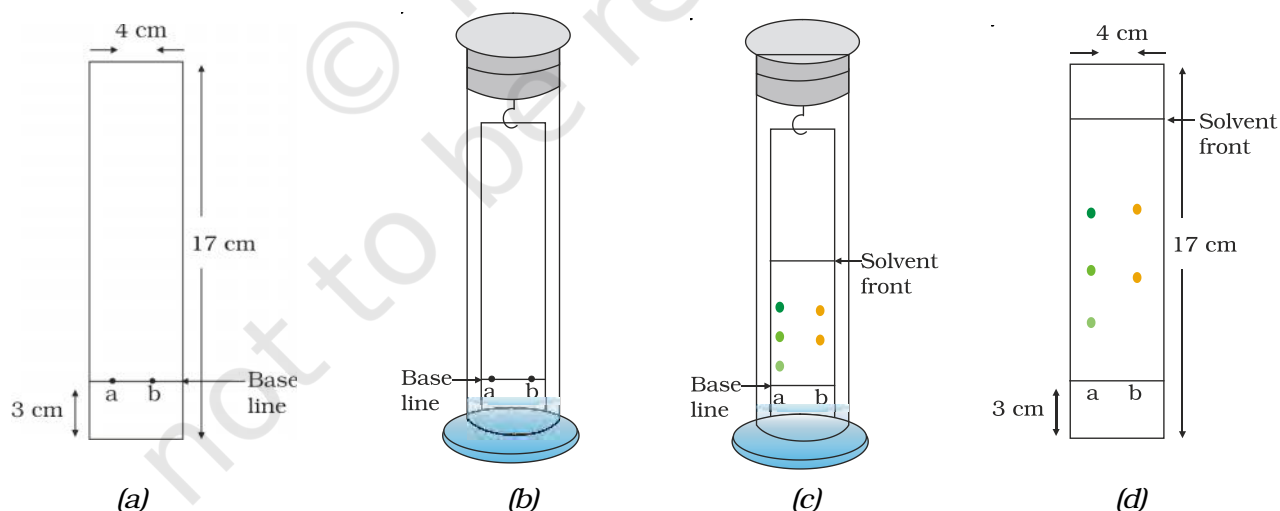

Fig. 5.1 : (a) Marked paper; (b) Dipping the filter paper in the solvent; (c) Developing chromatogram; and (d) Developed chromatogram
- (iii) Procure a Whatman filter paper No.1 of size 4 cm × 17 cm and mark a line at a distance of 3 cm from one of the ends of the paper with the help of a pencil [Fig. 5.1(a)].
- (iv) Using a finely drawn capillary, put one spot 'a' for the extract of leaves and one spot 'b' for the extract of flowers. Allow these spots to dry as shown in Fig. 5.1 (a).
- (v) Hang the filter paper in a jar containing 20 mL mixture of petroleum ether (boiling range 60–80 °C) and chloroform containing 19 mL petroleum ether and 1 mL chloroform or a mixture of petroleum ether (boiling range 60–80 °C) and acetone in the ratio 9:1 (18 mL petroleum ether + 2 mL acetone) so that the solvent does not touch the reference line as given in Fig. 5.1 (b).
- (vi) Keep this jar as such till the mobile phase (solvent) rises up to 2/3 of the length of the paper [Fig. 5.1(c)].
- (viii) Measure the distance travelled by the solvent front and the centre of different spots with respect to the reference line as given in Fig. 5.1 (d).